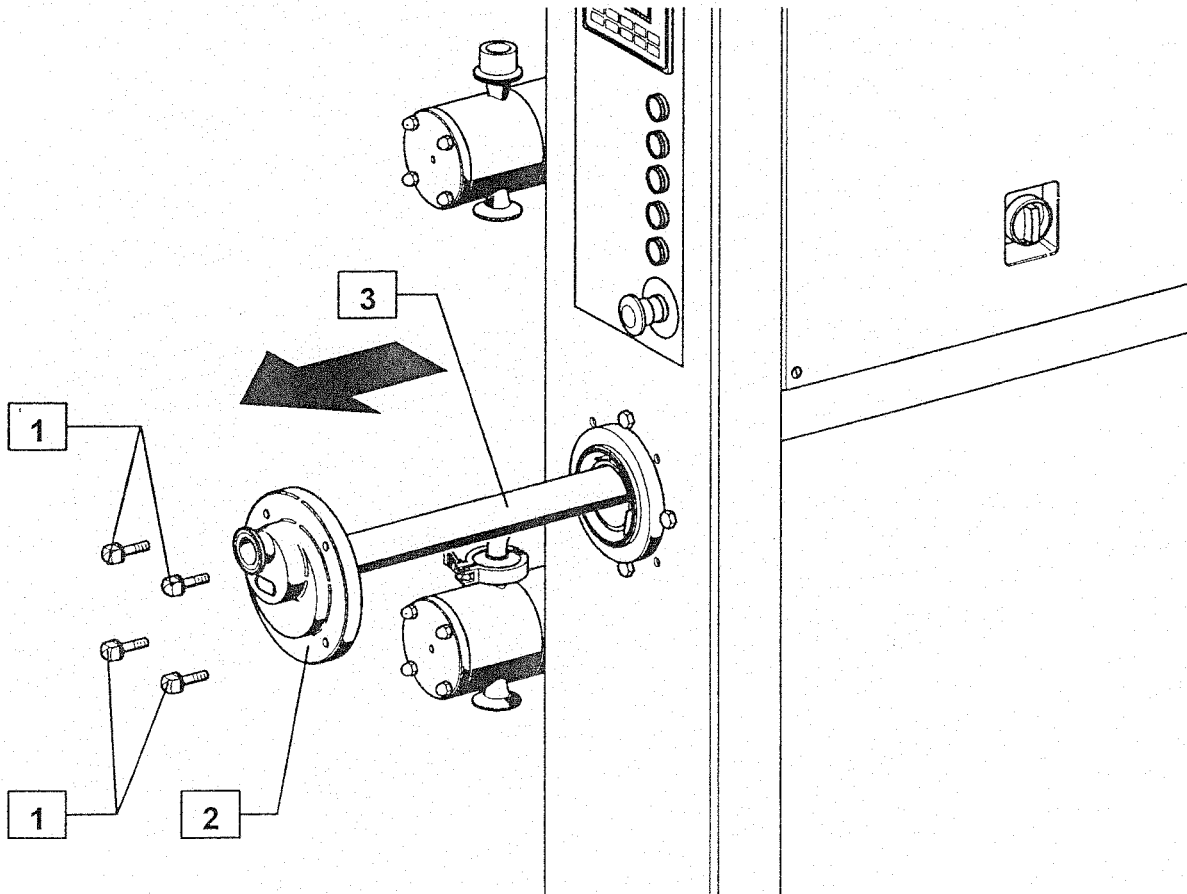

Fig. 7-10 – Dasher disassembly
- 1) Screw out the flange (Fig. 7-10 pos. 2) locking screws (Fig. 7-10 pos. 1).
- 2) Extract the flange (Fig. 7-10 pos. 2) or the whipper (Fig. 7-10 pos. 3).